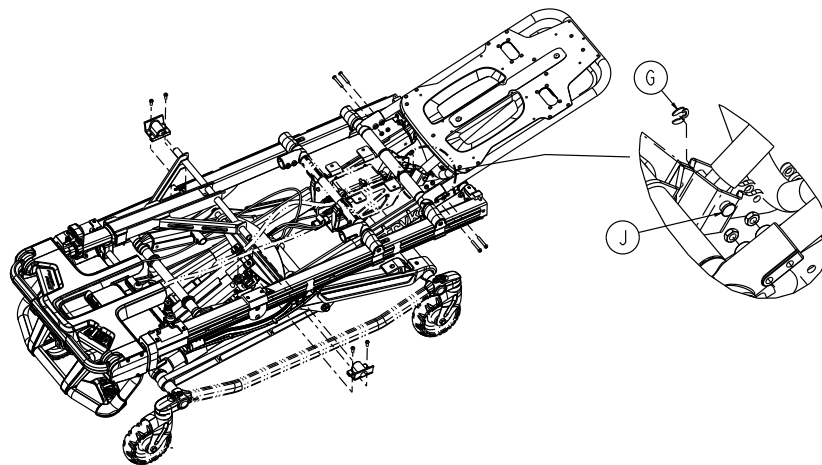

Figure 14 – Remove the truarc ring and Fowler cylinder pin
- Using a small slotted screwdriver, remove the truarc ring (G) and Fowler cylinder pin (J) that secure the bottom of the gas cylinder to the mount (Figure 14). Save the truarc ring and Fowler cylinder pin.